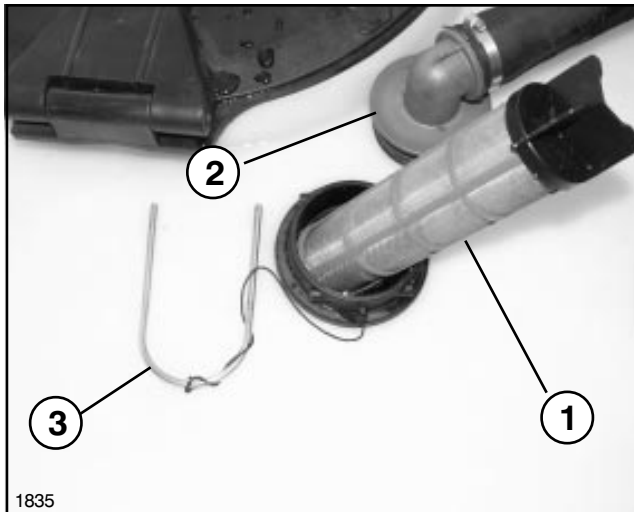

FIG. 6
14. SUCTION STRAINER: Filters solid particles from spray solution preventing clogs in the system. (See FIG. 6)